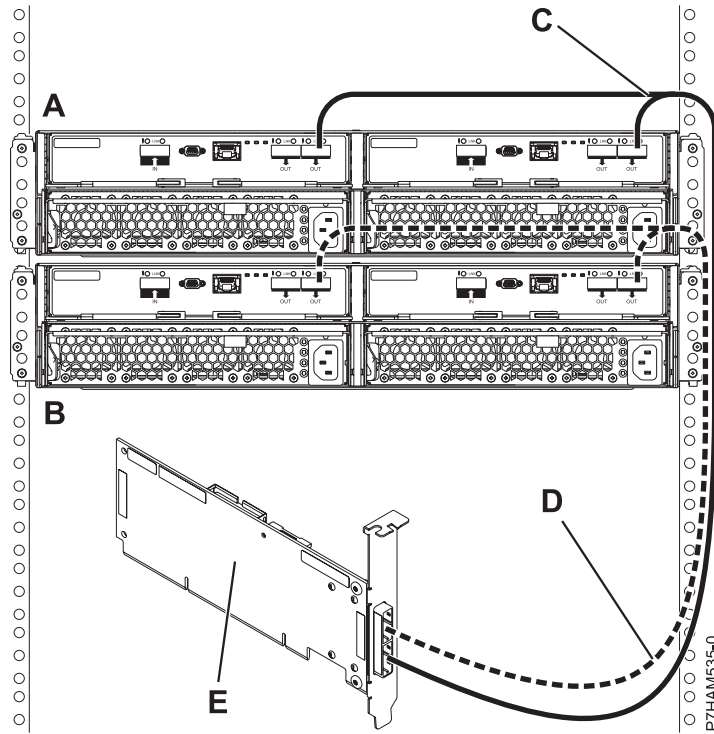

Figure 36. Mode 1 connection of two 58/87 disk drive enclosures by using YO cables to a single SAS adapter
10. Perform the mode 1 connection of two 58/87 disk drive enclosures (**A and B**) by using YO cables (**C and D**) to a single SAS adapter (**E**) as shown in Figure 36 on page 68.